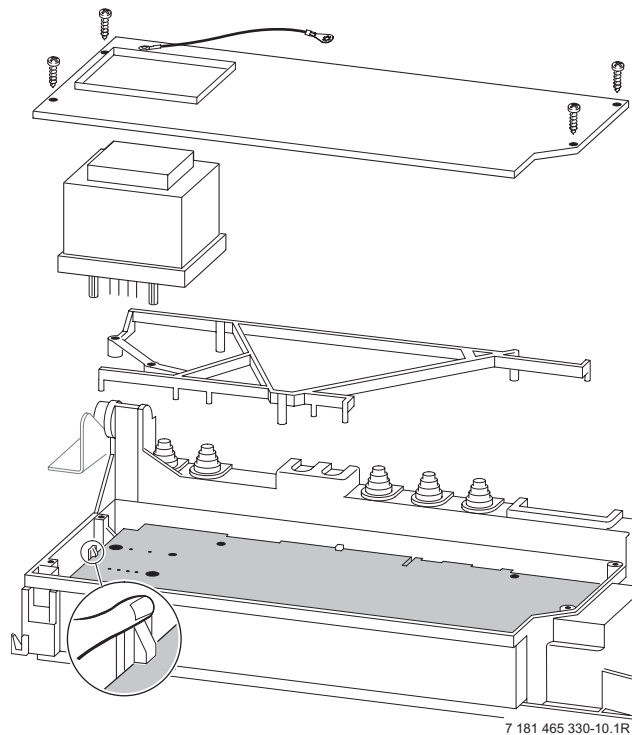

Fig. 61
- ▶ Unscrew four fixing screws from cover plate. Refer to fig. 61.